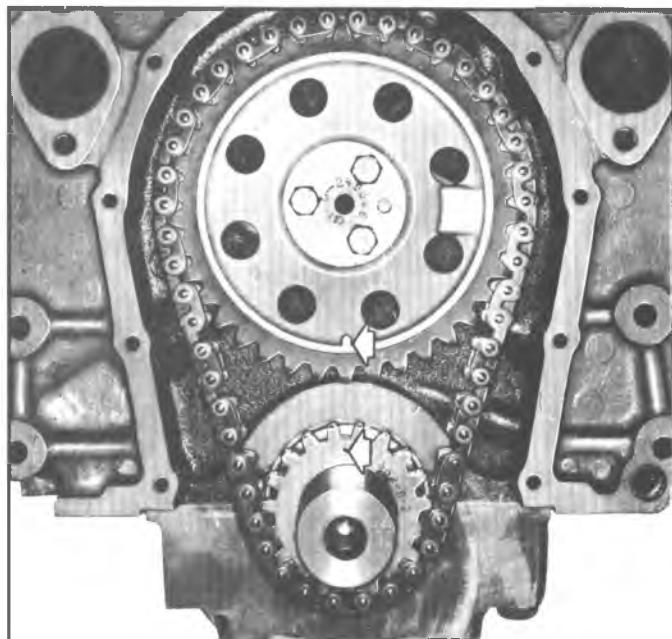

Fig. 23V—Timing Sprocket Alignment Marks
2. Crank engine until marks on camshaft and crankshaft sprockets are in alignment (fig. 23V).
- and align marks on camshaft and crankshaft sprockets. (Refer to fig. 23V and 27V).